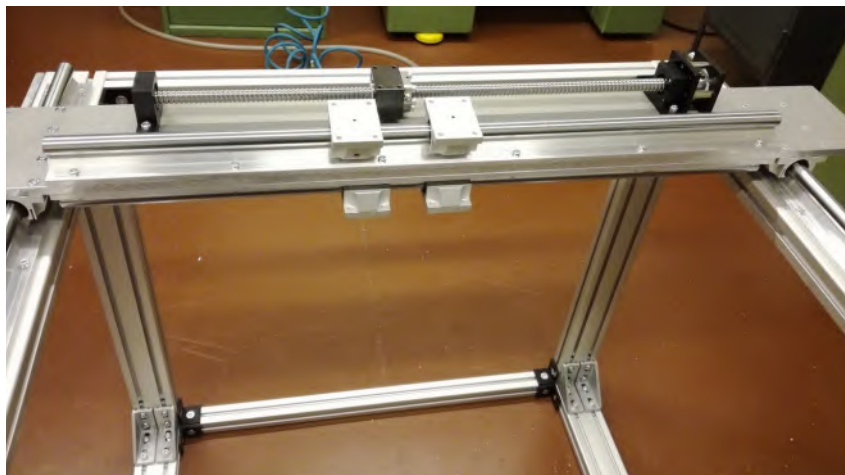

Figure 29: Assembled supporting rails and linear bearings
12.2. Place one supporting rail on top of plate 1 and put all 12 screws through the holes. Now place the other supporting rail at the bottom of plate 1, so that the screws go through the holes, and fix the rails with the hexagon nuts (Figure 29).